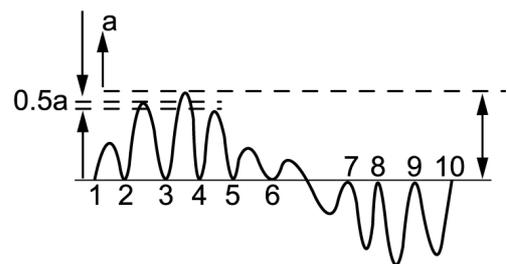

Fig. 3
1. Adjust Sub-Tint so that No. 2, 3 and 4 becomes level waveform is similar to Fig. 3.